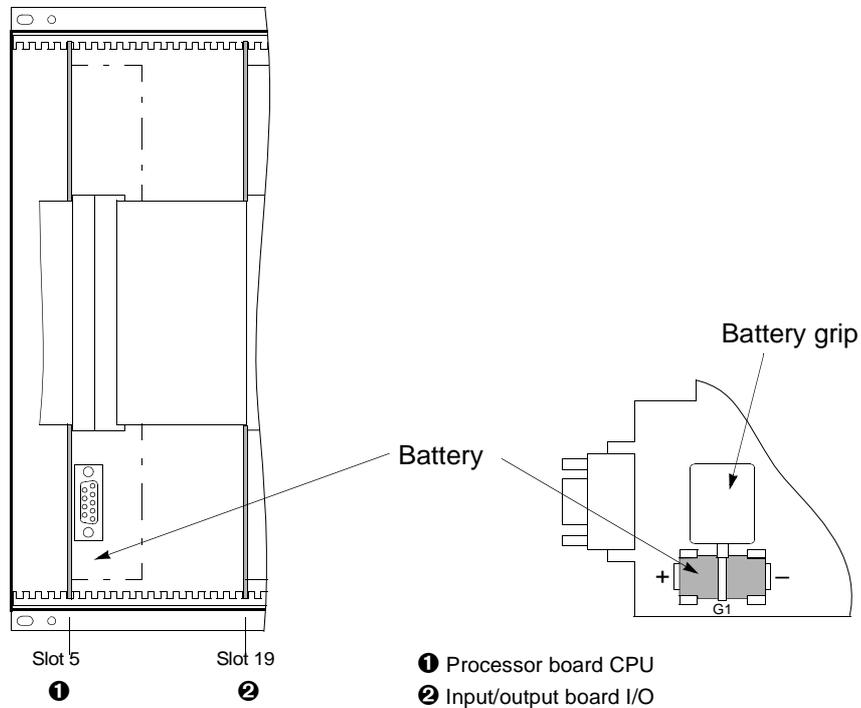

Figure 9-1 Front view without front panel – position of buffer battery (simplified and reduced)
- Disconnect the ribbon-cable that links the front panel and the CPU board (❶), at the side of the front panel. To disconnect the cable, push up on the top latch of the plug connector and push down on the bottom latch of the plug connector. Carefully set aside the front panel.
- The battery is located on the bottom-front side of the CPU (❶) board. See Figure 9-1.
- Remove the old battery from the snap-on connector using the plastic battery grip shown in Figure 9-1.
- Observing the polarity and firmly insert the new battery into the snap-on connector shown in Figure 9-1.
- Connect the ribbon-cable between the CPU (①) board and the front panel. Be especially careful not to bend any of the connector pins! Do not use force! Be sure that the plug connectors latch.